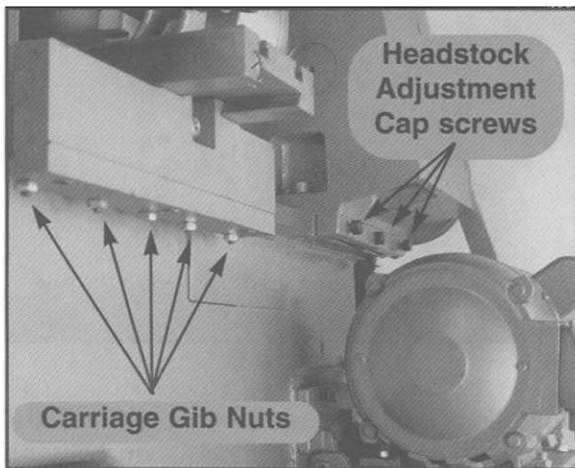

Figure 3
1. Loosen, but do not remove the lock nuts and setscrews on the gib at the back side of the carriage. See Figure 3. The small setscrews and lock nut are metric (be sure to use appropriate metric hand tools).
5. On the bottom rib at the back of the **HEADSTOCK CASTING** – behind the motor – are three cap screws. See Figure 3. These screws are intended to adjust the headstock square to the bed. Remove the center screw and loosen the two side screws. **DO NOT** remove the side screws at this time.